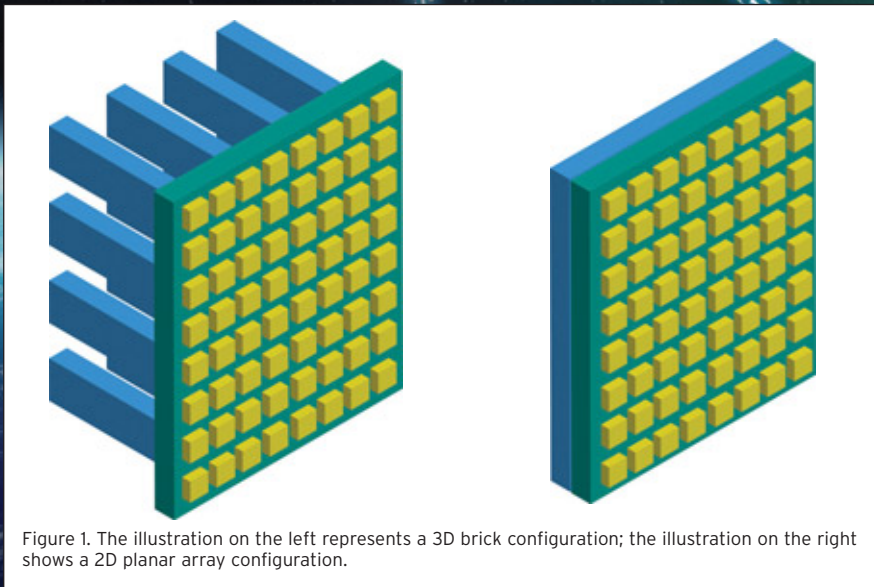

Figure 1. The illustration on the left represents a 3D brick configuration; the illustration on the right shows a 2D planar array configuration.
Today, satcom applications consist of active electronically scanned arrays (AESAs) that use multiple transmit/receive modules (TRMs) to electronically steer beams independently. In the past, AESAs were quite large as they used a 3D brick configuration made up of boards placed side by side and attached using multiple connectors and cables (Figure 1, left).
Instead of this bulky configuration, designs are now using 2D planar arrays that are built like a PCB using surface-mount (SM) attachment of components (Figure 1, right). A planar configuration removes the need for most connectors and cables, which not only improves SWaP-C but also increases reliability and simplifies manufacturing.